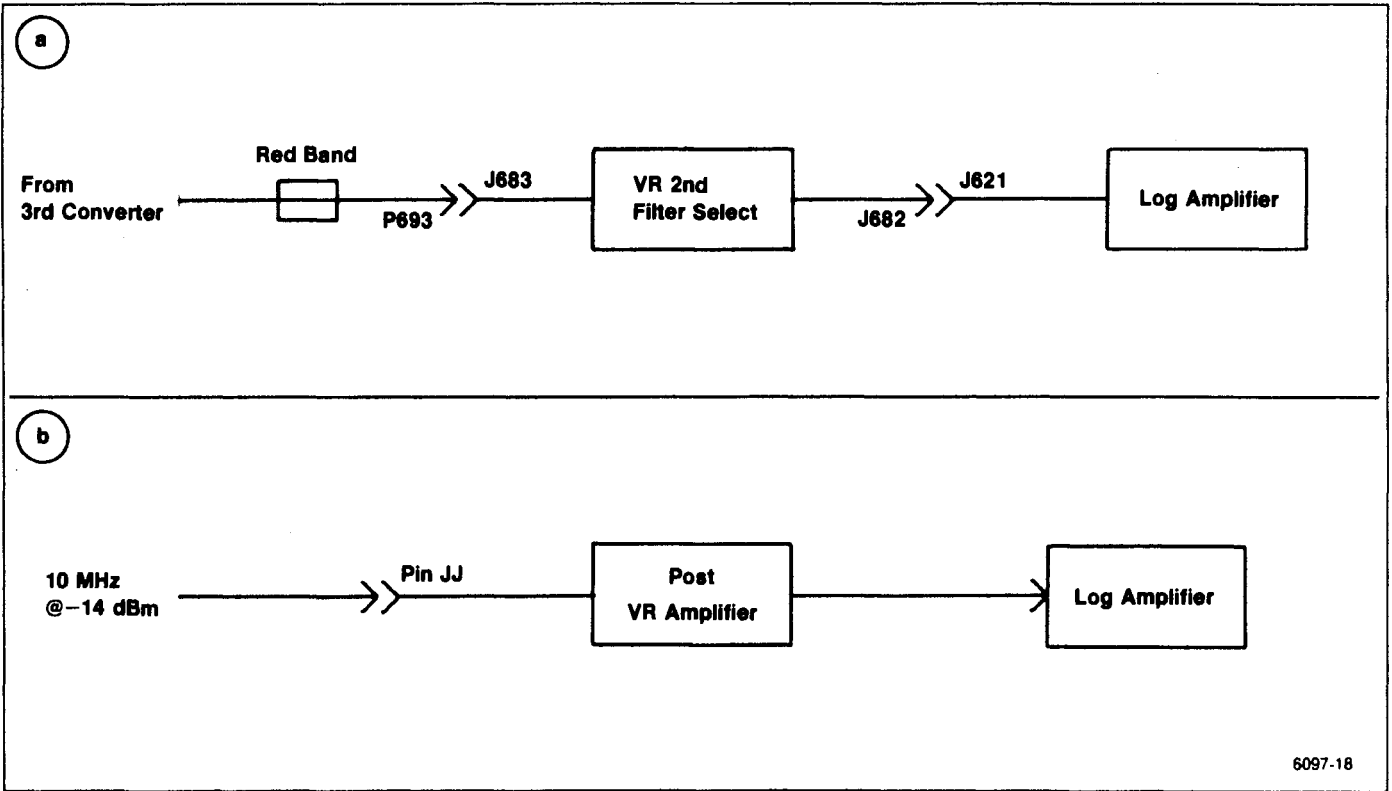
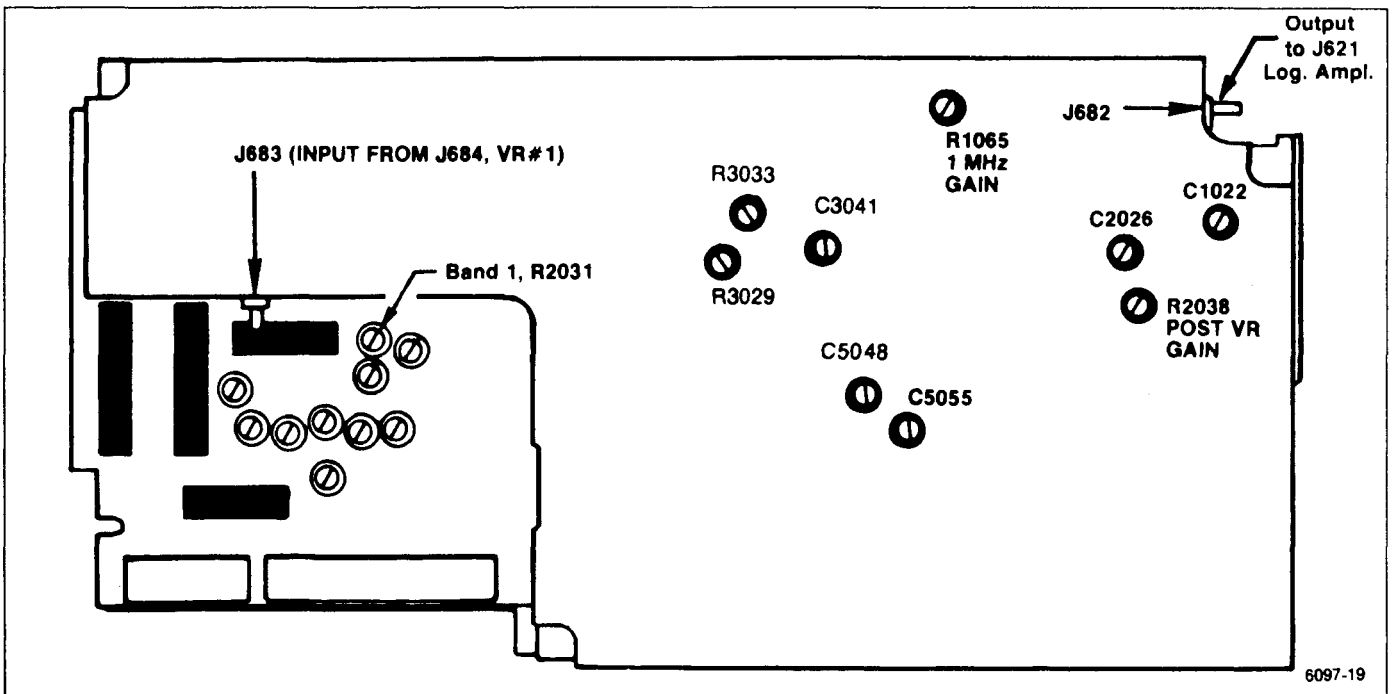
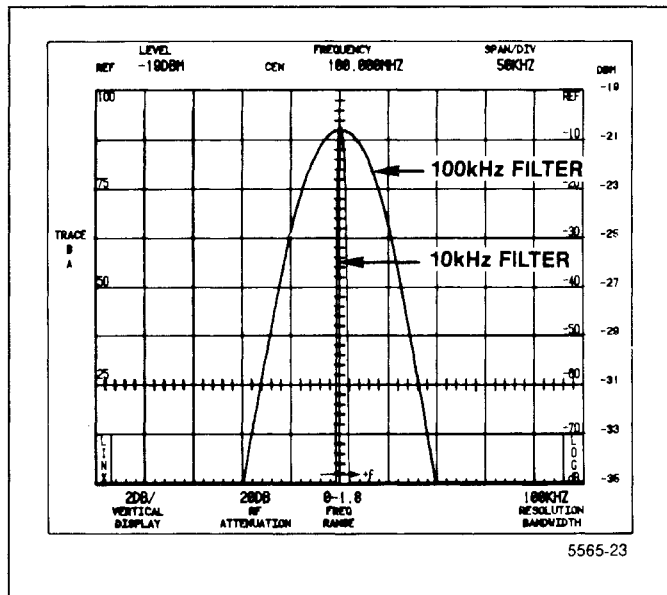
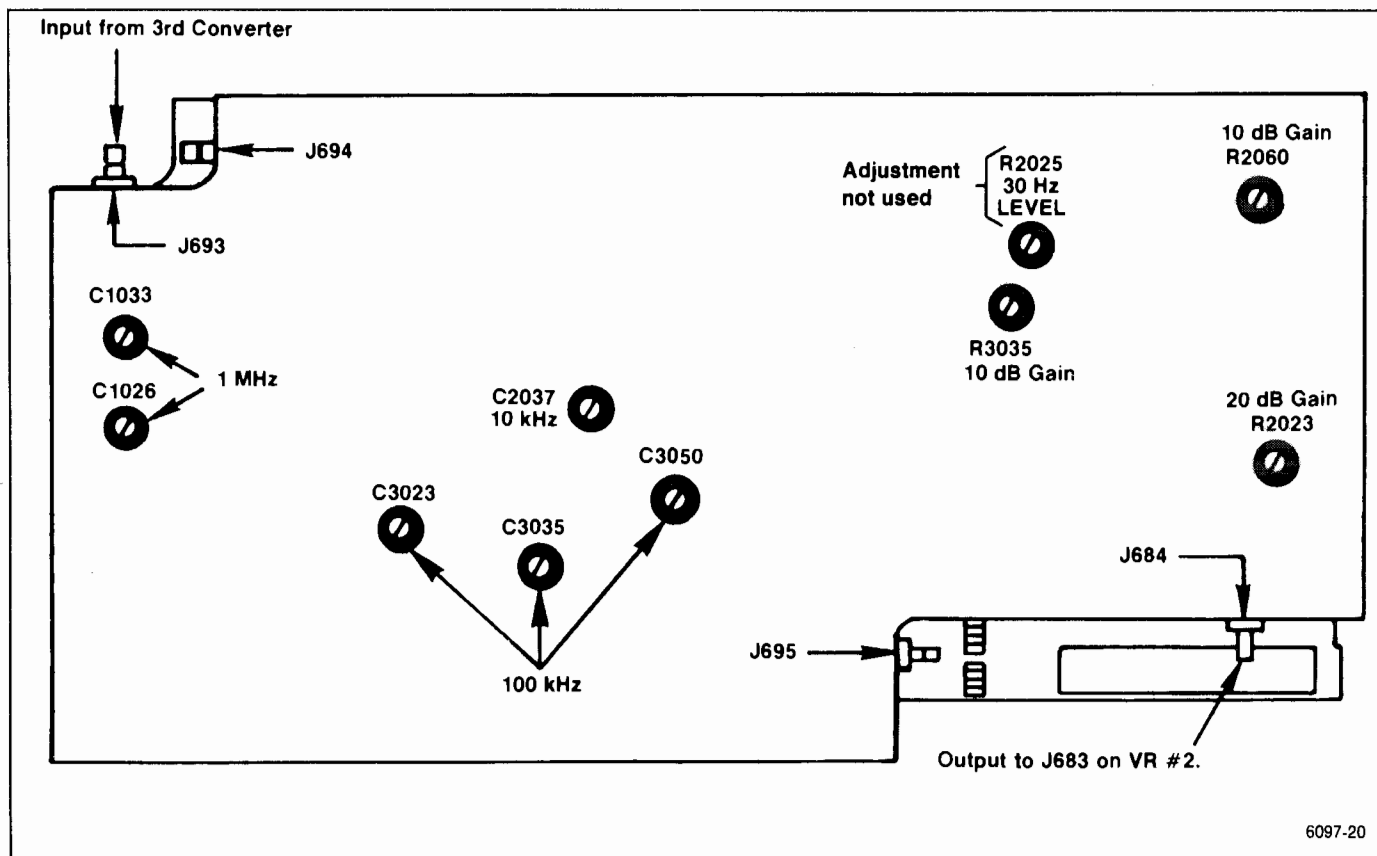

Figure 5-16. Test equipment setup for adjusting the Variable Resolution module.
Figure 5-17. Adjustments on the front of the Variable Resolution module.
Figure 5-18. 100 kHz filter response over 10 kHz filter response.
Figure 5-19. Adjustments on the rear of the Variable Resolution module.
a. Equipment setup is shown in Figure 5-16.
(1) Remove and install the Variable Resolution module on an extender.
(2) Use a Sealectro male-to-male adapter and coaxial cable to connect the 10 MHz IF output signal, from the 3rd Converter, to the input of the second section (make connection from plug removed from J693 to J683).
(3) Connect the Variable Resolution output to the input of the Log Amplifier assembly by connecting a cable from J682 on the Variable Resolution Module to J621 on the Log & Video Amplifier assembly (see Figures 5-17 and 5-16).
(4) Apply the CAL OUT signal to the RF INPUT, and set the Spectrum Analyzer controls as follows:
d. Adjust C5055, C5048, and C3041 on the VR 2nd Filter Select board (Figure 5-17) for the best 100 kHz filter response (100 kHz bandwidth, 3 dB down, that is centered about the 10 kHz reference). Refer to Figure 5-18.
g. Adjust C2026 and C1022 (Figure 5-17) for the best 1 MHz response centered about the 10 kHz filter response.
h. Disconnect the 10 MHz third converter IF signal from J683 and reconnect it to J693 (see Figure 5-19). Reconnect P683 to J683 (Figures 5-16 and 5-17).
k. Adjust C2037 (Figure 5-19) for the best 10 kHz response centered about the 1 kHz reference.
- n. Adjust C3050, C3035, and C3023 (Figure 5-19) for the best 100 kHz response centered about the 10 kHz filter reference.
- p. Adjust the 1 MHz filter response and centering with C1033 and C1026 in the VR Input board (Figure 5-19). Deactivate SAVE A.
Locations of the adjustments are shown in Figure 5-17.
d. Set the front panel AMPL CAL fully ccw and set the Band 1 Gain R2031 on VR Mother board #2 (Figure 5-17) fully ccw.
e. Disconnect P693 (Figure 5-19) and activate MIN NOISE. Apply a 10 MHz, -25 dBm signal, from the signal generator, through a bnc-to-Seaelectro adapter to J693. Set the generator frequency to peak the signal amplitude. (Signal amplitude should be between 3.5 and 6.5 divisions. If signal amplitude is not within these limits it indicates a gain problem in the Variable Resolution module.)
f. If the signal amplitude is over 5 divisions, adjust the Post VR Gain R2038 (Figure 5-17) for a 5 division signal amplitude.
h. Switch MIN NOISE off, decrease the generator output to -35 dBm, leave the REF LEVEL at -20 dBm, and adjust the 10 dB Gain R3035, on the 10 dB Gain board (Figure 5-19) so the signal amplitude is 7 divisions.
i. Change the generator output to -45 dBm, the REF LEVEL to -40 dBm, and adjust the 20 dB Gain R2023 on the 20 dB Gain Step board (Figure 5-19) for a
j. Change the generator output to -65 dBm, the REF LEVEL to -60 dBm, and adjust the 10 dB Gain R2060 on the 20 dB Gain Step board (Figure 5-19) for a 7 division signal amplitude.